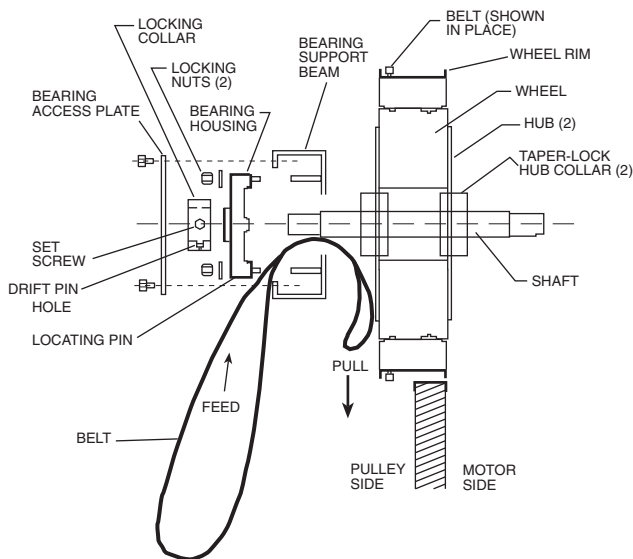

Fig. 168 — Solid Belt Replacement
SOLID BELT REPLACEMENT (Fig. 168)
5. Form a small loop of belt and pass it through the hole in the bearing support beam. Grasp the belt at the wheel hub and pull the entire belt down. Loop the trailing end of the belt over the shaft (Fig. 168 shows the solid belt partially through the opening).